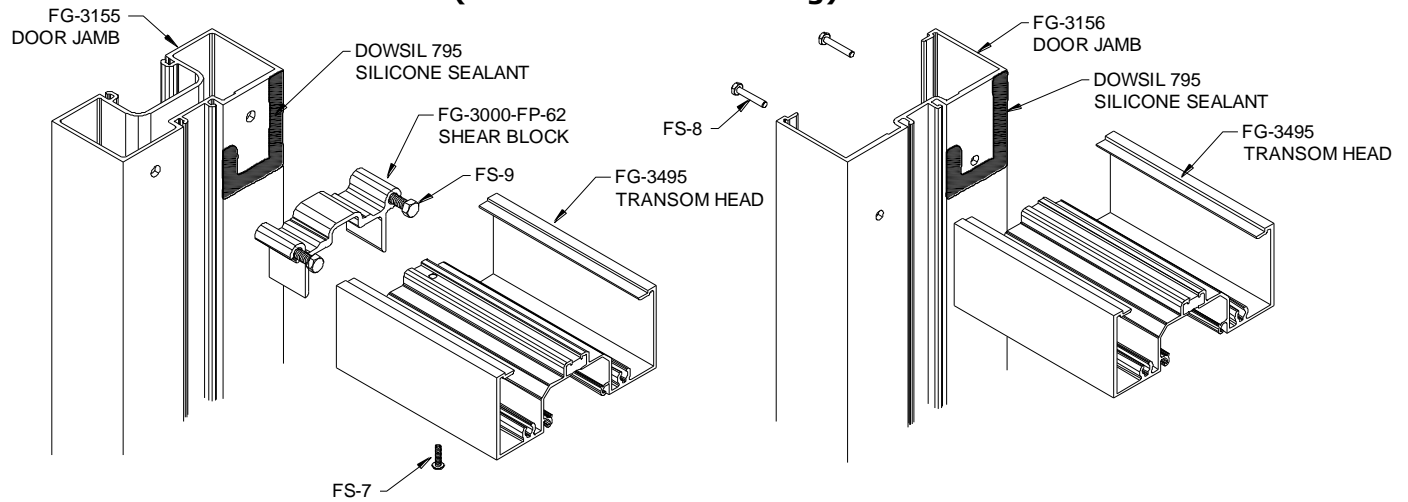
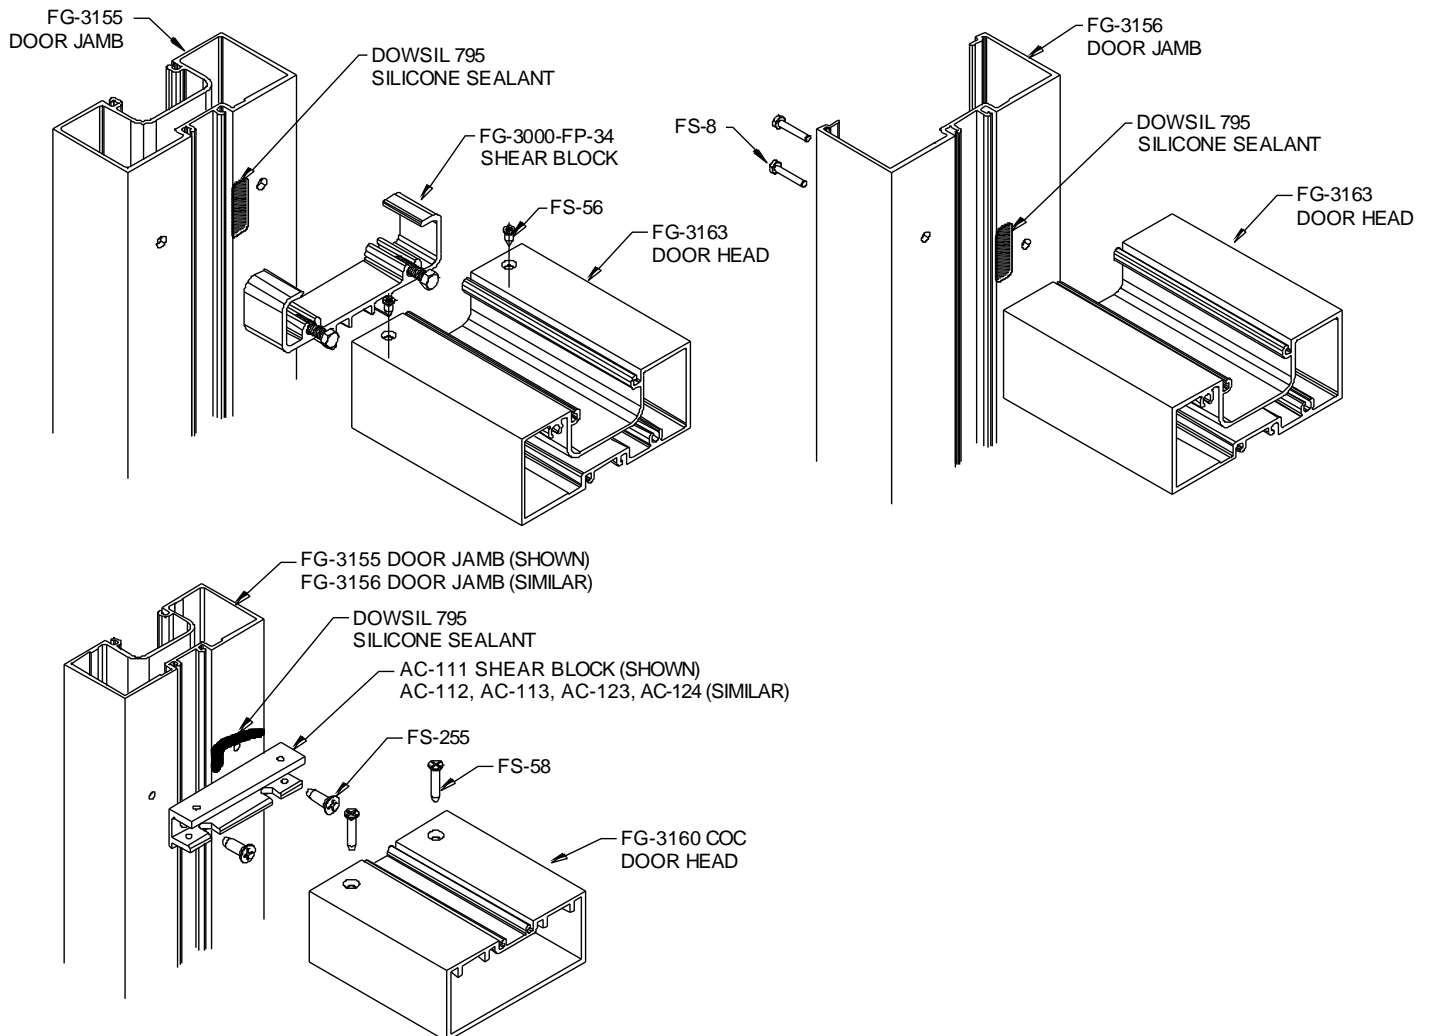

Figure 12: ArmorDefend™ Door Jamb to Transom Head Connections
Figure 13: ArmorDefend™ Door Jamb to Door Head Connections
4.1 Reference *Figure 12* and *Figure 13* to assemble Door Jamb to Door Head and Transom Head (if applicable).